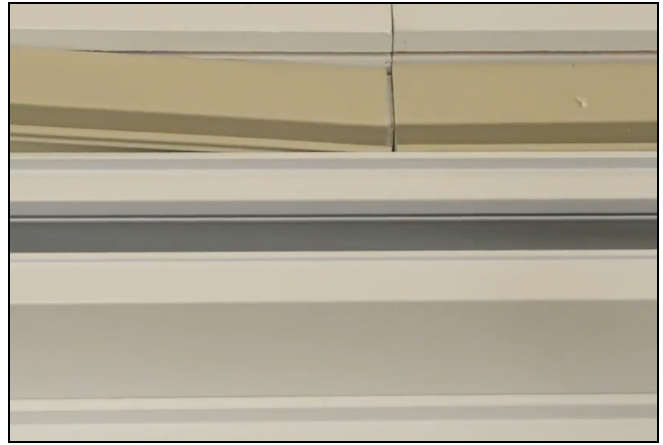

Figure 24
7. Install the shoot bolt channel. See Figure 24.